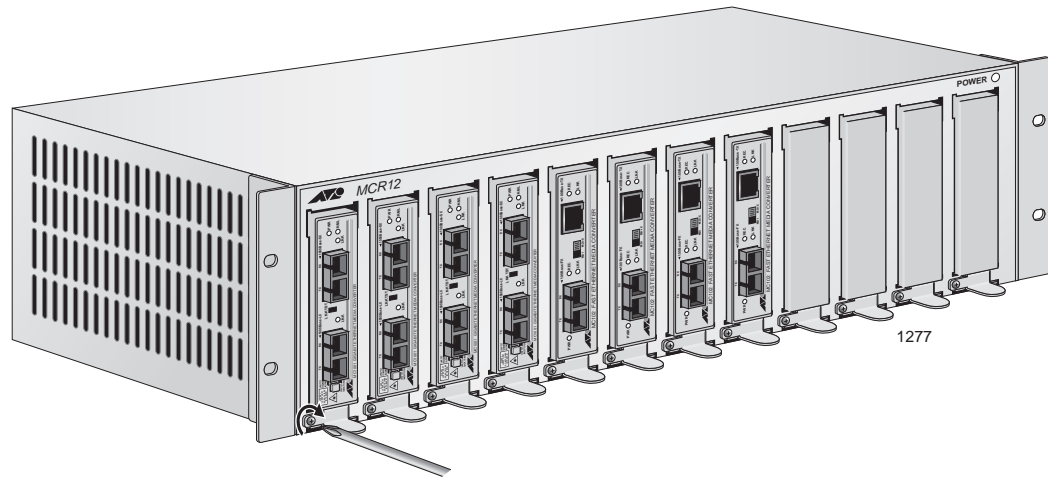

Figure 9. Securing the Mounting Rail
6. Secure the mounting rail to the chassis by tightening the captive screw, as shown in Figure 9.